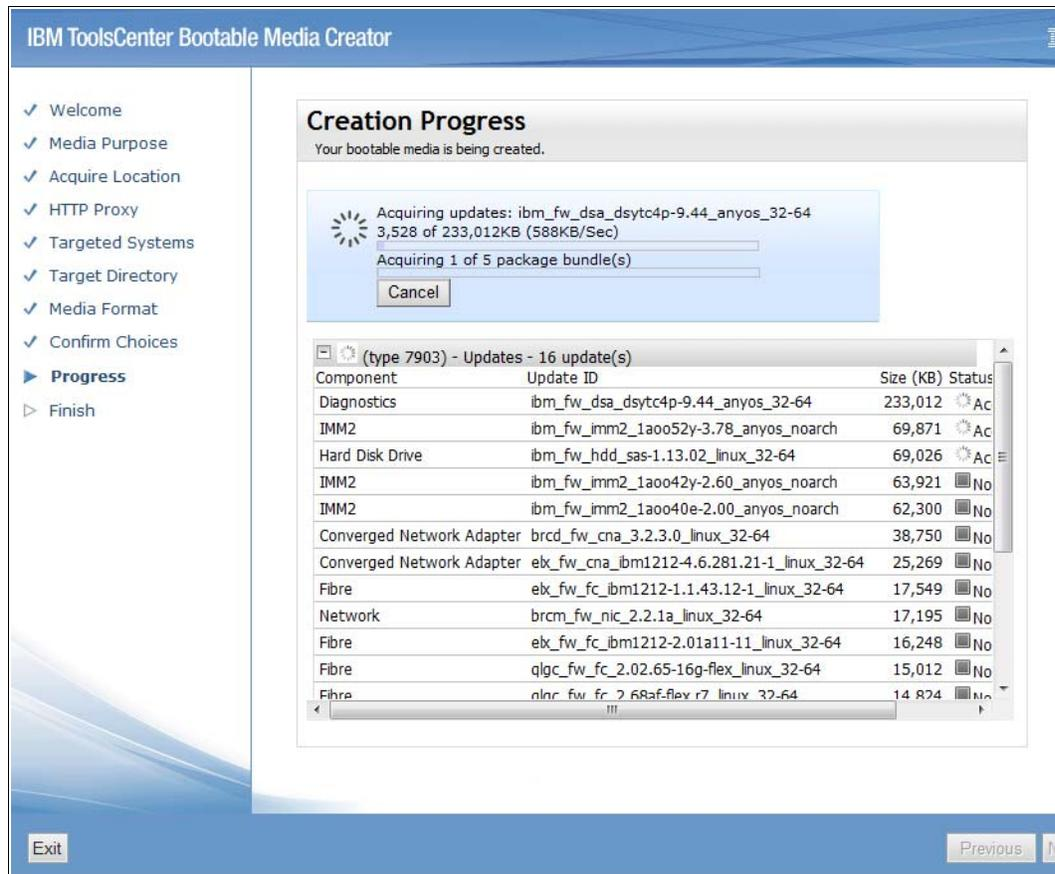

Figure 6-8 BoMC Creation Progress window
- The Creation Progress window shown in Figure 6-8 shows the progress while downloading firmware updates and the tools needed to apply them. After all files are downloaded, the bootable media is created. When this step is complete, click **Next**, and then click **Finish**.